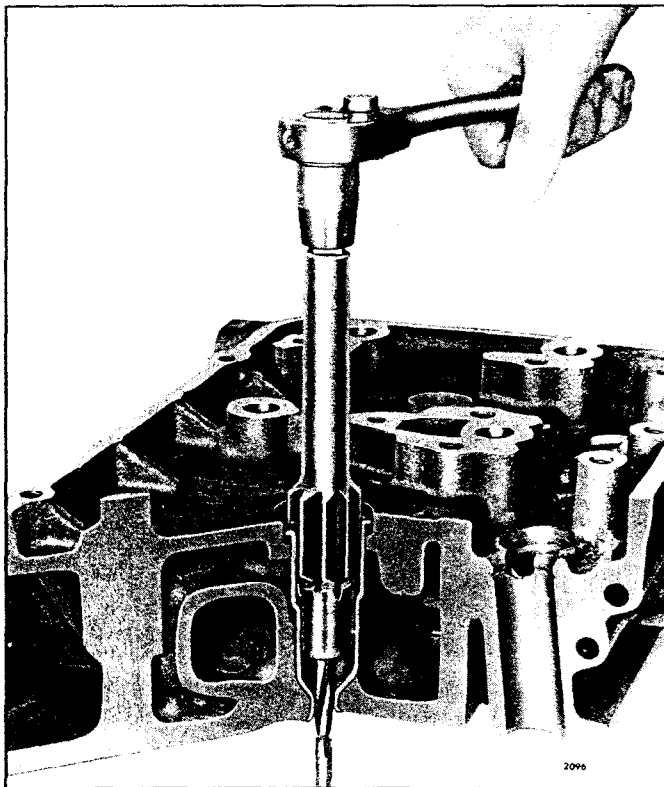

Fig. 5 – Reaming Injector Tube for Injector Body Nut and Spray Tip Using Tool J 22525-1
1. Refer to (Fig. 5) and insert the injector into the injector tube with the dowel pin in the injector body registering with the locating hole in the cylinder head.
First, *hand reamed*, as shown in Fig. 5, to receive the injector body nut and spray tip.
- b. Turn the reamer in a clockwise direction (withdrawing the reamer frequently for removal of chips) until the lower shoulder of the reamer contacts the injector tube (Fig. 5). Clean out all of the chips.